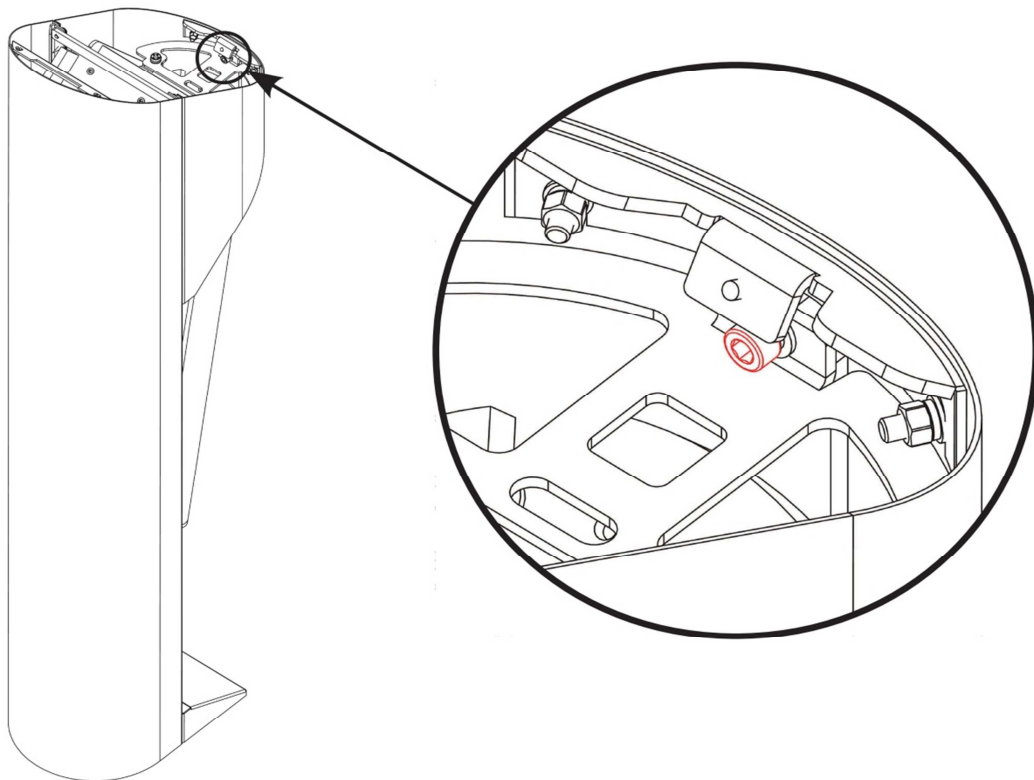

Fig. 8 Central stand of turnstile
- Remove M6 GOST11738-84 screw (Fig. 8);